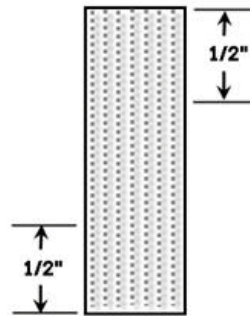

Figure 25 - Glue Floor Magnets
4. When the magnet placement is correct, glue each magnet with two small beads of silicon caulk. See Figure 25.